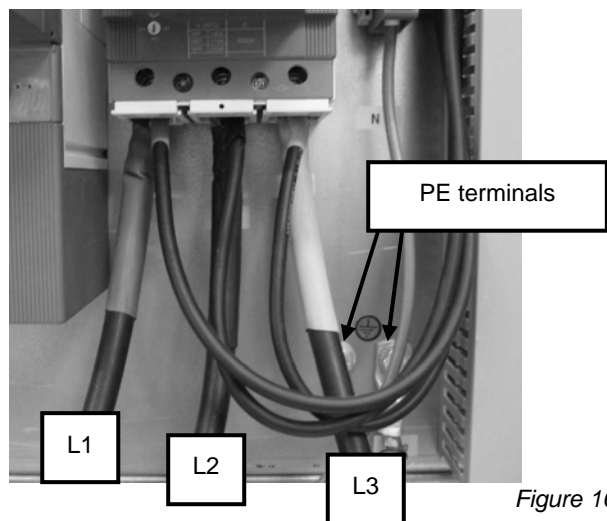

Figure 16
- 5 Connect the Protective Earth (PE) to the terminal(s) as indicated in figure 16.